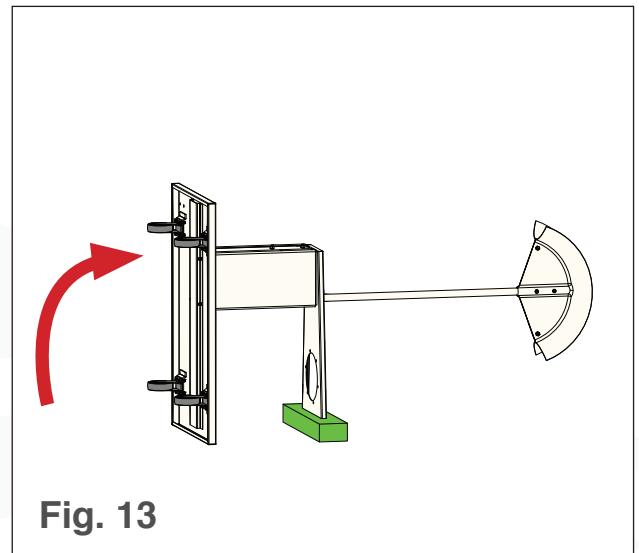

Fig. 13
2. Place a piece of foam packaging over the wide end of the lid holder, then rotate the Trim Saver  $90^\circ$  so it rests on the foam (see Fig. 13).